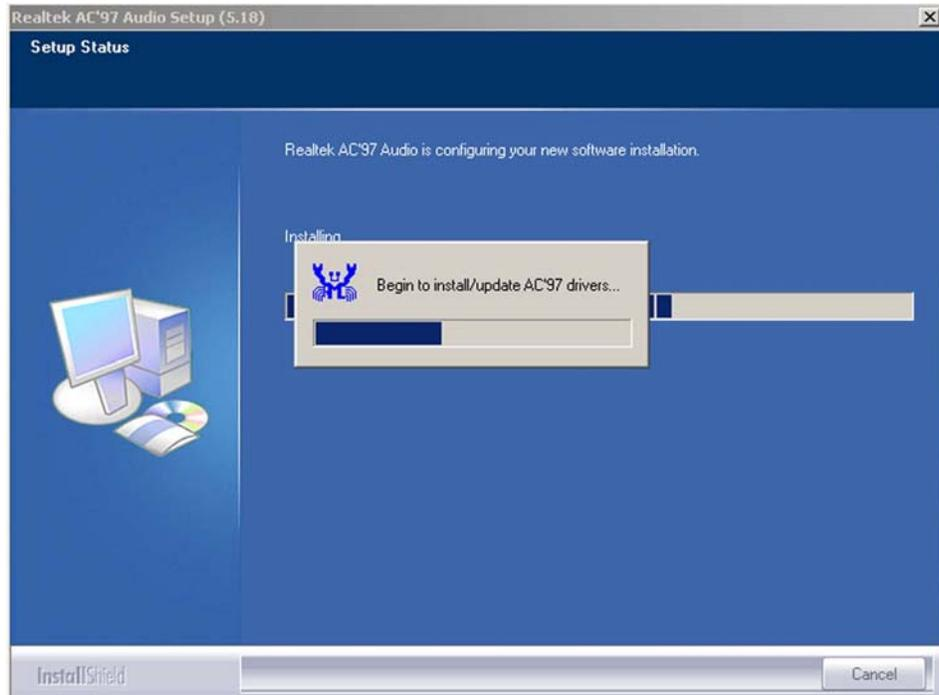

Figure 7-17: Audio Driver Installation Begins
Step 8: The installation of the driver begins. See **Figure 7-17**.